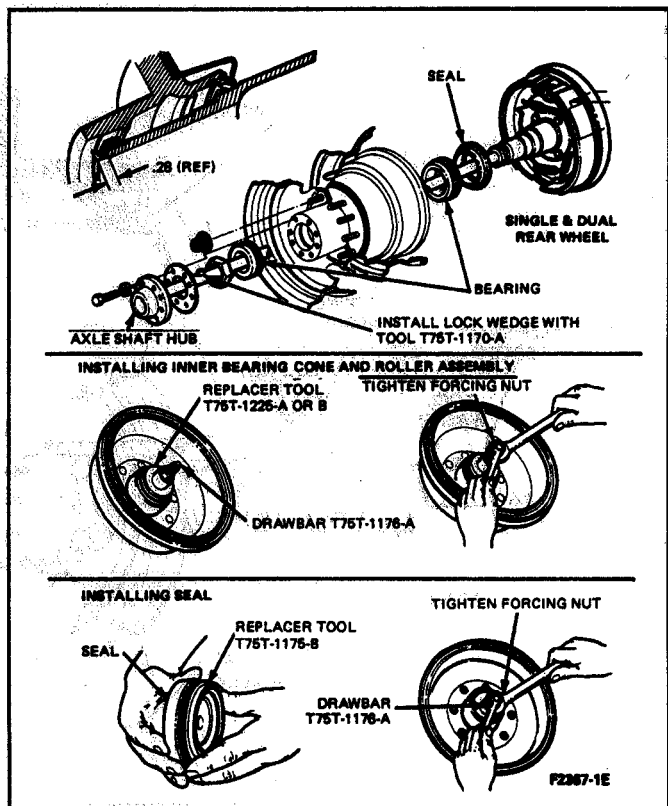

FIG. 5 Installation of Rear Wheel Bearings and Seal
13. If the bearing cups are to be replaced, drive them out with a brass drift. Install the new cups with special tool Bearing Cup Replacer T75T-1225-A & B (Fig. 5).
16. Place the inner bearing cone and roller assembly in the wheel hub, (Fig. 5). Install a new hub inner seal with tool T75T-1175-B.